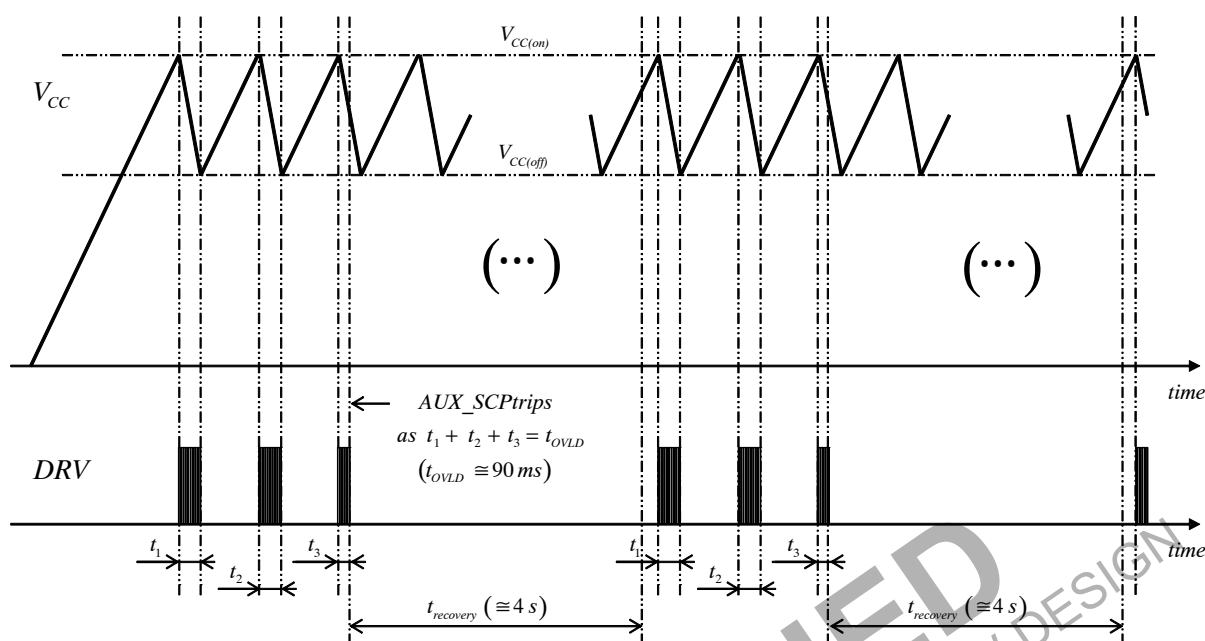

Figure 60. Start-up Sequence in a Load Short-circuit Situation (auto-recovery version)
- If the load is shorted, the circuit will operate in hiccup mode with V_{CC} oscillating between $V_{\text{CC(off)}}$ and $V_{\text{CC(on)}}$ until the AUX_SCP protection trips (AUX_SCP is triggered if the ZCD pin voltage does not exceed 1 V within a 90-ms operation period of time thus indicating a short to ground of the ZCD pin or an excessive load preventing the output voltage from rising). The NCL30185A latches off in this case. With the B version, the AUX_SCP protection forces the 4-s auto-recovery delay to reduce the operation duty-ratio. Figure 60 illustrates a start-up sequence with the output shorted to ground, in this second case.